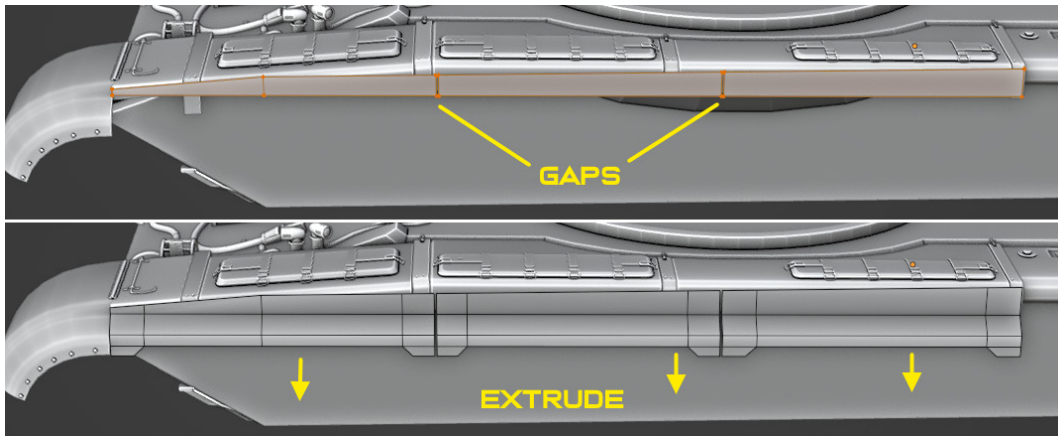

Figure 8.39 – Skirt basic shapes
1. Use planes to create some simple shapes on the sides of the boxes we created before. Extrude them downward to get a shape, as shown in *Figure 8.39*.